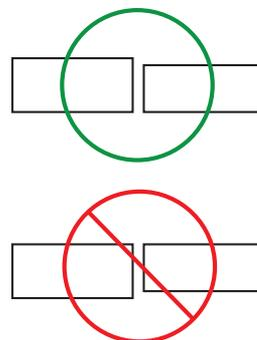

Figure 1
4. Set-up Chroma sheets to ensure that they are level and square at the joint to be seamed together. This can be done on the sub-top of the counter top itself or on leveled saw horses. Bottom surfaces of the seam should be aligned. (See Figure 1) Make sure that the colored side of the panel is facing down. Place 1-2 strips of tape on the table or subtop to keep the glue from sticking to the table.